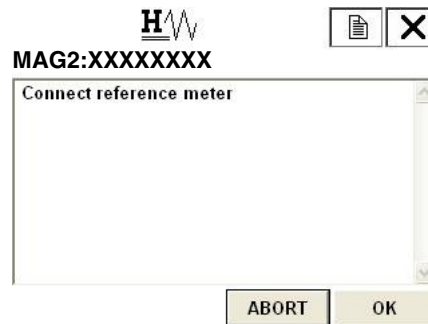

Figure 103.
3. Figure 103 then appears. Connect the device to measure the current output, and then press F4 (OK).